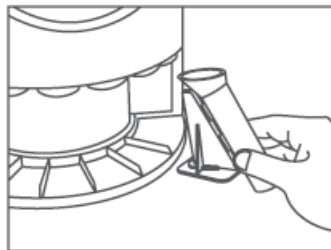

Figure 2 - Installing coin tube
3. Attach the coin tubes to the C200 by gently sliding each tube into the proper slot in the base of the machine as shown in Figures 2 and 3.